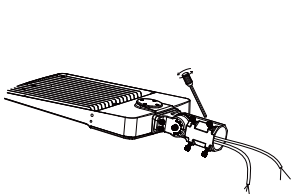

Figure 1-1
Step 1: Loosen the 4 screws on the bracket with a screwdriver and make ensure that the bracket can fit into the light pole, Figure 1-1;